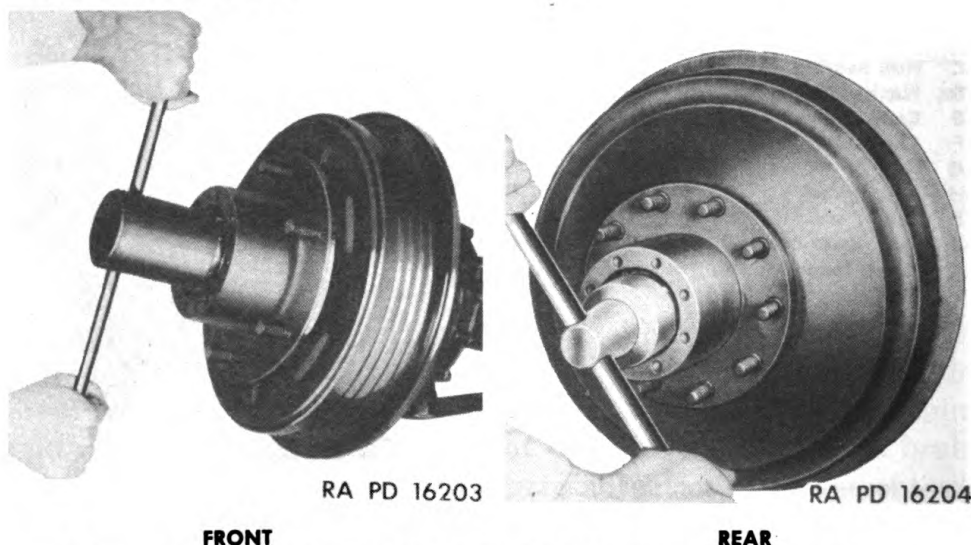

Figure 185—Typical Method of Adjusting Hub Bearings
(2) Adjust bearings (See Fig. 185)